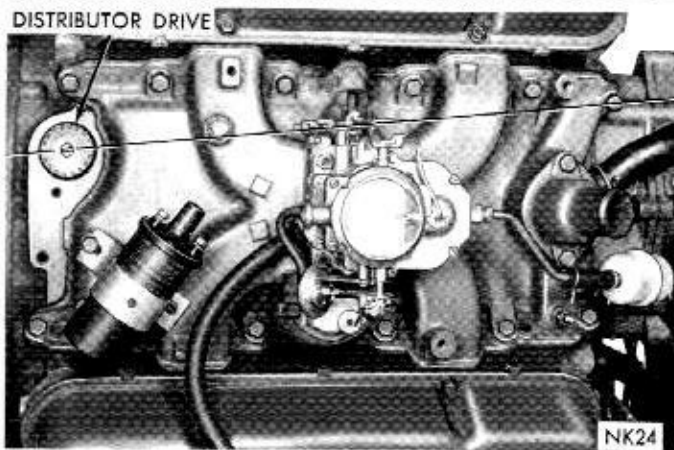

Fig. 28—Positioning of Distributor Drive Gear
(5) Slide pulley over the shaft and attach with bolts and lockwashers. Tighten the bolts to 15 foot-pounds.
(6) Install damper hub retainer washer and bolt.
(7) Install fuel pump and fuel lines.
(8) Install water pump and housing assembly using new gaskets. Tighten bolts to 30 foot-pounds.
(9) Install radiator, fan and belt, hoses and close drains.
(10) Fill cooling system.
(11) With timing indicator on "O" install distributor drive gear with slot pointing to the first intake manifold bolt on left side of engine (Fig. 28).
(1) Rotate crankshaft until No. 1 cylinder is at top dead center on the firing stroke.
(2) When in this position, the straight line on vibration damper should be under ("O") on the timing indicator.
(3) Coat shaft and drive gear with engine oil. Install the shaft so that after gear spirals into place, it will index with the oil pump shaft, so slot in top of drive gear will point to the first intake manifold bolt on left side of engine as shown in (Fig. 28).